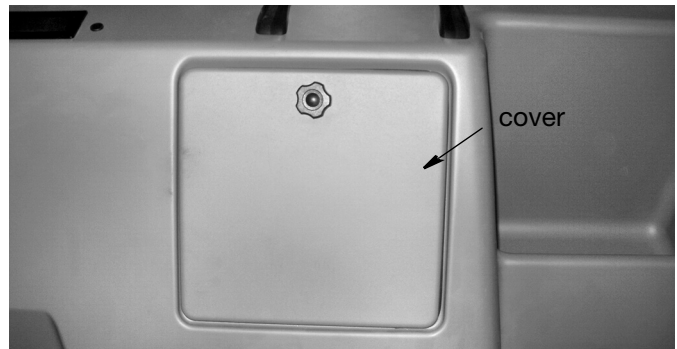

FIG. 79
18. Remove fuse box cover (FIG. 79).